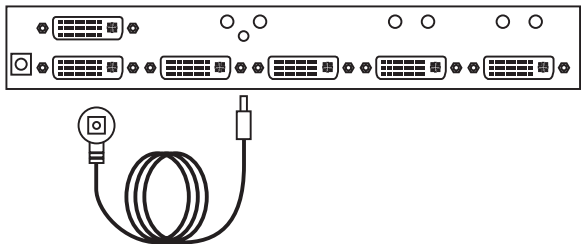

Figure 6-3. Connecting the external sensor.
- Connect the external sensor. See Figure 6-3.